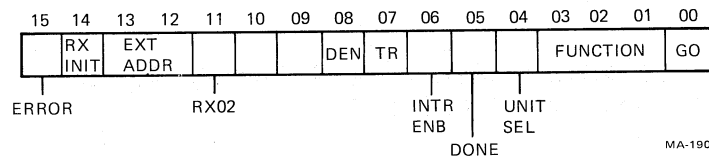

Figure 4-25 RX2CS Format RX211/RXV21
4.3.2.1 RX2CS – Command and Status (177170) – Loading this register while the RX02 is not busy and with bit 0=1 will initiate a function as described below and indicated in Figure 4-25.